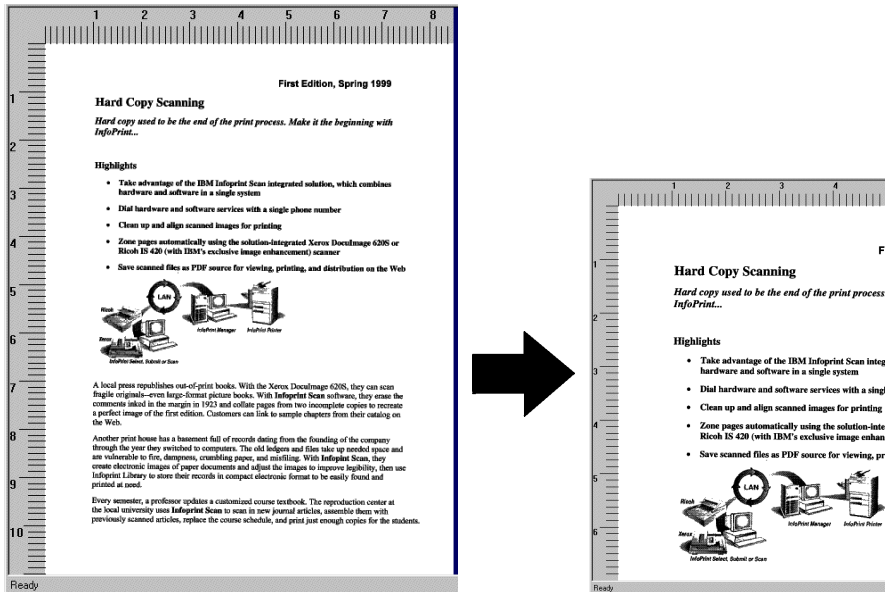

Figure 3. Resize the page to specified dimensions without changing the size of the image on the page.
- You can resize the page to specified dimensions without changing the size of the image on the page. (See Figure 3 on page 82.)
**Note:** Keep in mind that when the *Scale to fit finished page size* check box is **not** checked, only the page will be resized, not the image. Depending on the size and shape of the original image and of the resized finished page, parts of the image may be cut off, as shown in the example in Figure 3 on page 82.